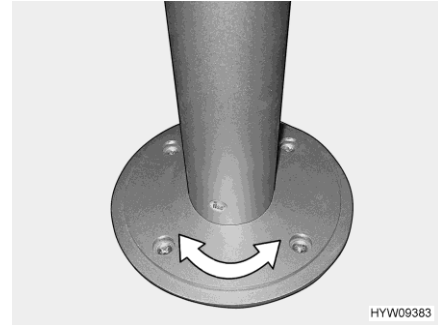

Fig. 91 Pillar table leg (rotatable)
- Rotate table top to the desired position. In order to do this, you need a little effort, because the table top rotates against the friction resistance on the pillar table leg (Fig. 91).